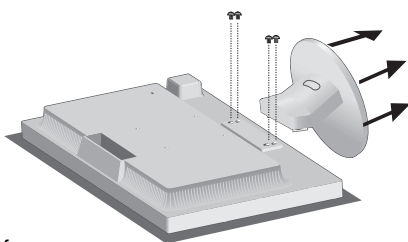

Figure R.2
3. Remove the 4 screws connecting the monitor to the stand and remove the stand as indicated (**Figure R.2**). The monitor is now ready for mounting in an alternative manner.